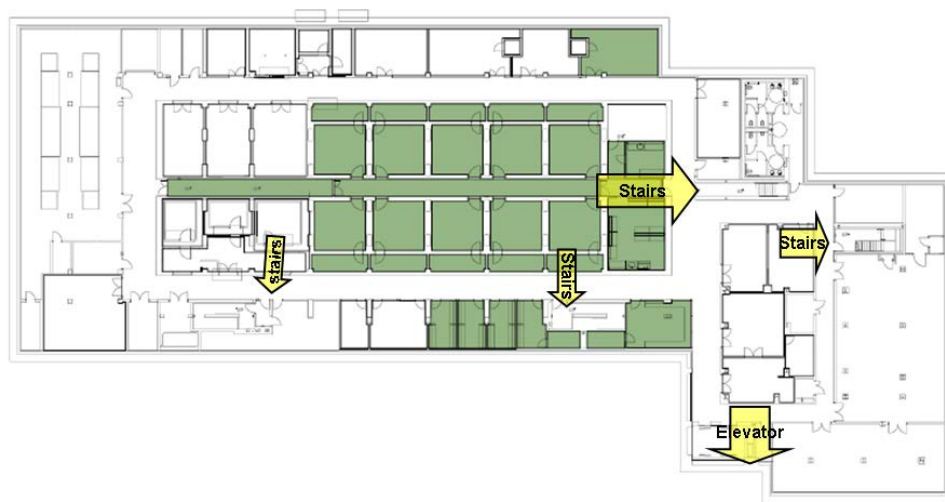

Figure 6: Évacuation routes, LISE bassement.
- The NFPA “fire diamond” (Fig. 6) is a visual notification standard maintained by the US Fire Protection Association.